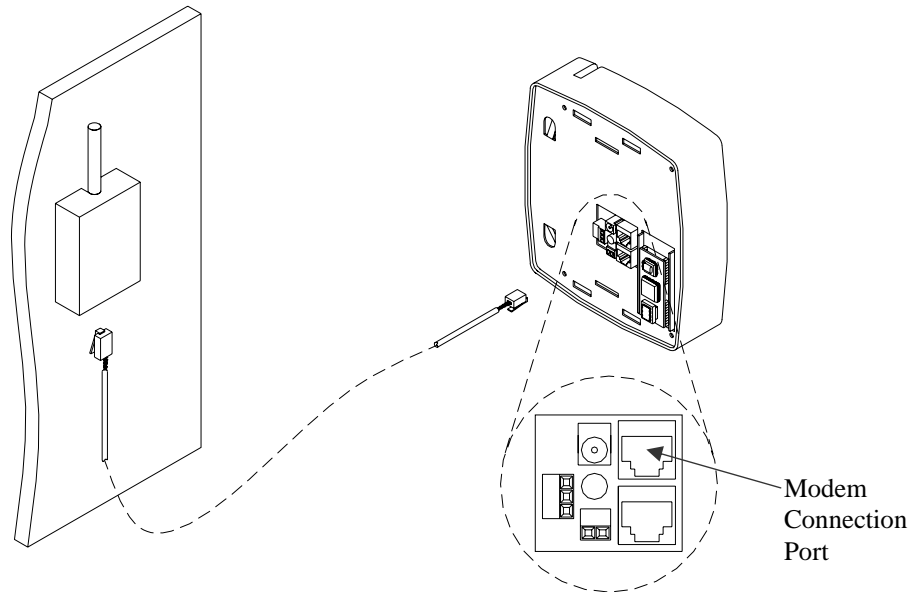

Figure 5
- ◆ Insert the other end of the phone line through a knockout in the terminal back box and plug it into the clock's modem connection port as shown in the diagram below, Figure 5.